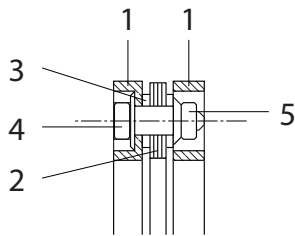

Figure 1
- Flange units may not be taken apart (Figure 1).